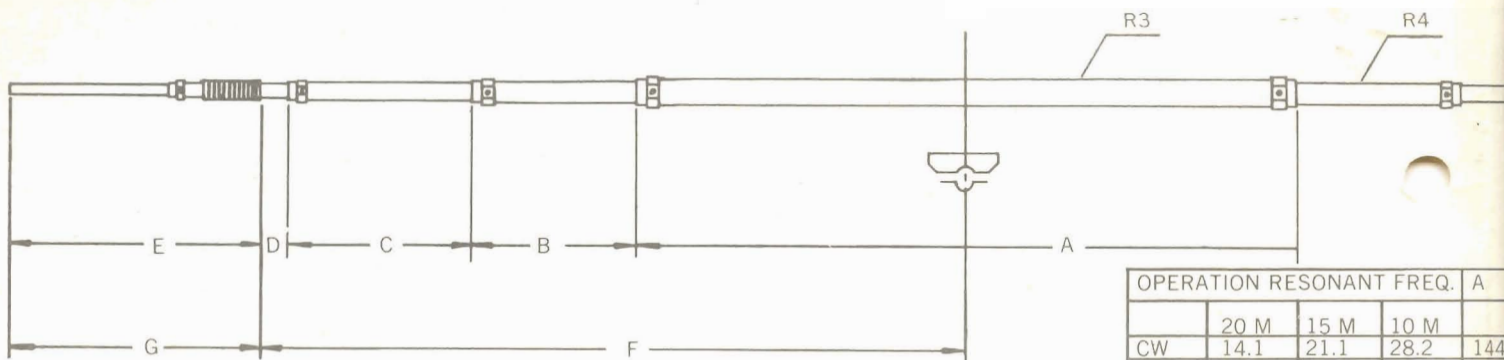

FIGURE 1 15 & 20 METER REFLECTOR
\*Refer to Figures 1 through 9 and familiarize yourself with the entire antenna make-up, then proceed with assembly.
- 10-20 Meter Reflector. All tubing bundled together and marked (R1). See Figure 1.